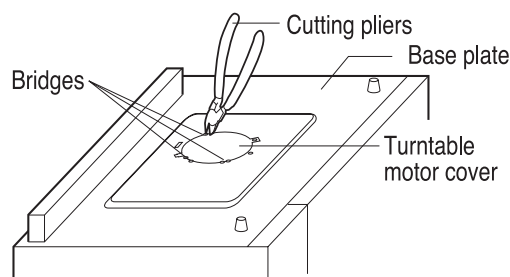

Figure C-1(a). Turntable motor cover removal
4. Cut the four (4) bridges holding the turntable motor cover to the base plate with cutting pliers as shown in Figure C-1(a).